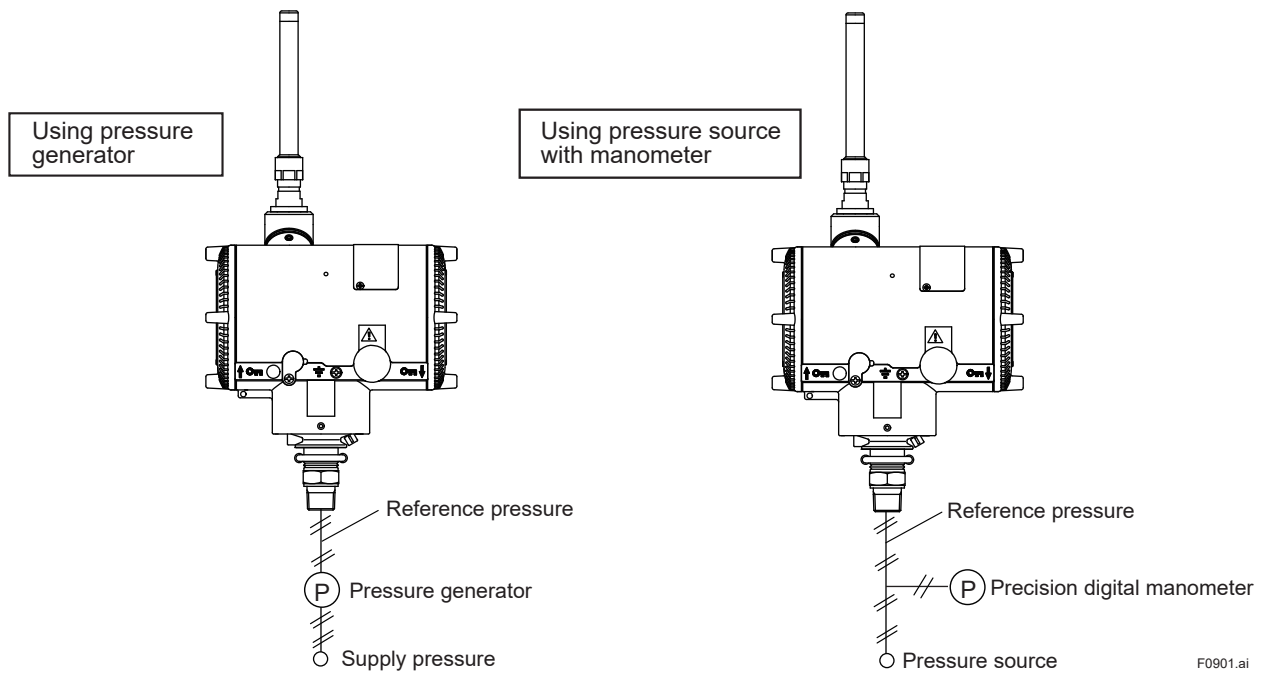

Figure 9.1 Instrument Connections
- 3) Connect the devices as shown in Figure 9.1 and allow the transmitter to warm up for at least 5 minutes.